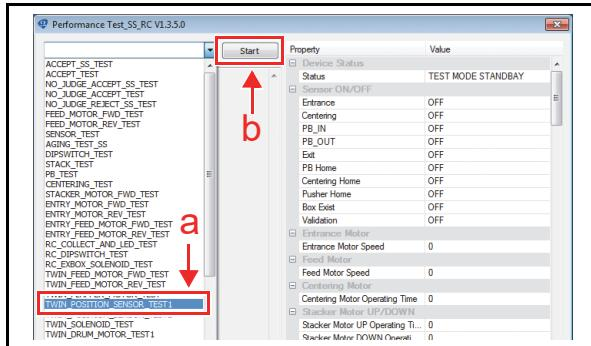

**Figure 6-42** Flapper Motor Operation Time Test (RT Transport) 2
4. The measured time will appear in the “RC-Flapper (RC-Twin)” area (Figure 6-42 a) on the Screen.
6. Click the “Stop” Screen Button (Figure 6-42 b) to end the test.